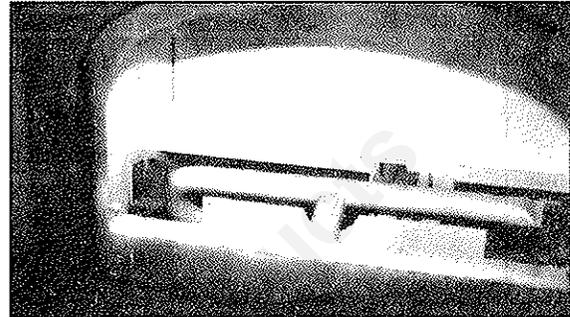

Figure 21
1. See Figure 21 and 22. Place the Back Log on the Back Log Support and position the log all the way to the back of the support.